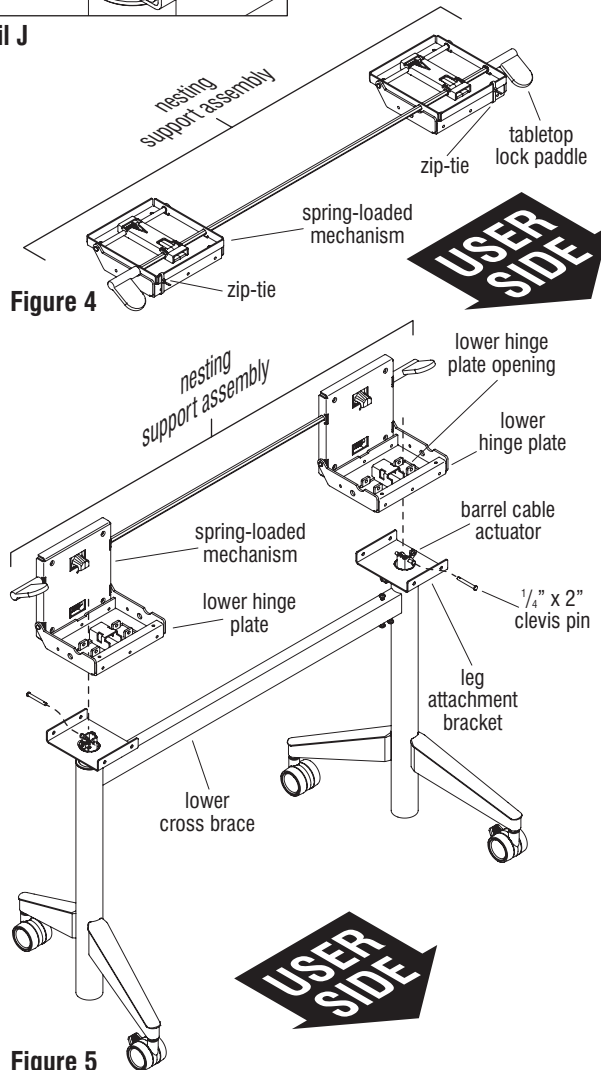

Figure 5
15. Rotate both cable release bracket weldments so the barrel cable actuators face away from the lower cross brace (Figure 5 & Detail H).
16. Remove a 1/4" x 2" clevis pin from the cable release brackets at each side (Figure 5 & Detail I).
17. Position the opened nesting support mechanism above the leg attachment brackets, making sure the opening is facing the user side of the table assembly as illustrated. Making sure the barrel cable actuators are still facing away from the lower cross brace, carefully set the opened spring-loaded mechanisms onto the leg attachment brackets, aligning the outside lower hinge plate openings with the cable release bracket weldments. If cable actuators are not facing away from the cross brace while the lower hinge plate is set onto the leg attachment brackets, disassembly and reassembly will be required (Figure 5 & Details I & J).